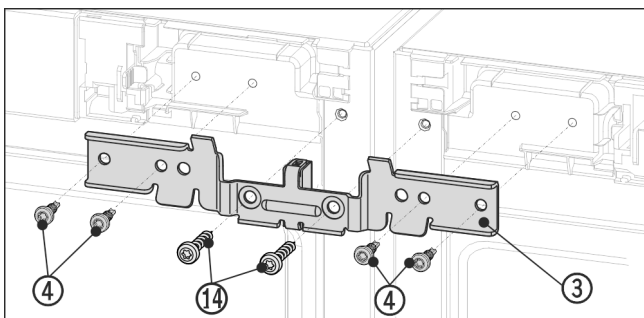

Fig. 13 Example illustration
- Slide the bracket Fig. 13 (3) onto the pins with the spacer between the appliances. Loosely screw in the brackets alternately right and left with four screws Fig. 13 (4) and the previously removed earthing screws Fig. 13 (14).